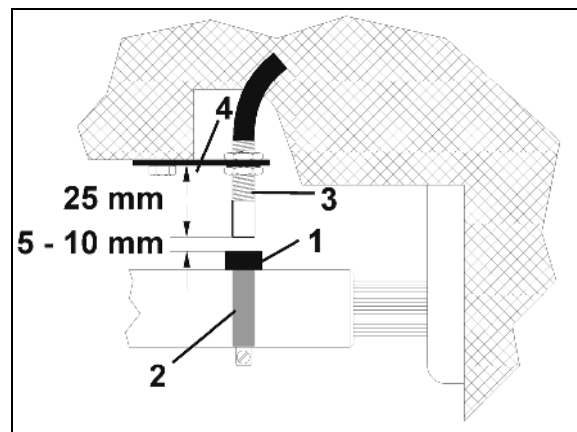

Fig. 101
1. Secure the magnets (1) to the cardan shaft with the hose clip (Fig. 101/2).
2. Secure the sensor (3) to the vehicle frame opposite the magnet using a universal holder (4).